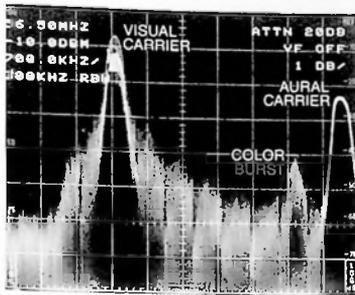

Figure 14. Broadcast TV signal spectrum
3. Adjust the reference level until the spectrum of the TV signal is above half-screen. Compare your measurement to Figure 14. Figure 14 demonstrates the signal detail that can be seen in analog display mode.